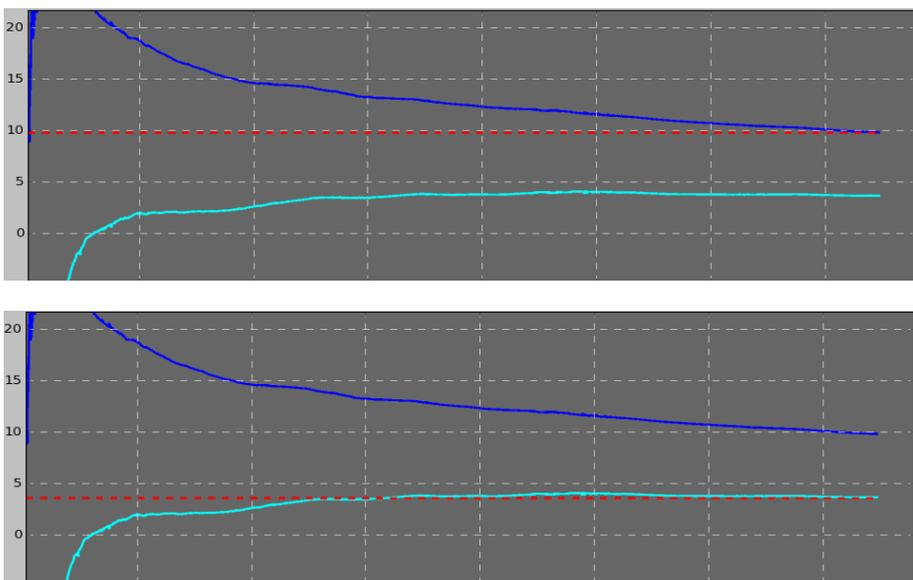

Figure 2.17 – Control of the trend bandwidth with the help of the cursor
2.6 The line-cursor can also be used to control the bandwidth. By placing the cursor at the level of the right end of the band's upper edge, and then shifting it to the lower edge (see Figure 2.17), we can observe a numeric value, which corresponds to the level of a cursor position. In general, the line-cursor helps to control the band direction and see the level of specific activity for any point of the band.